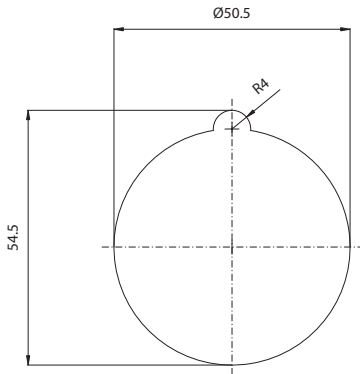
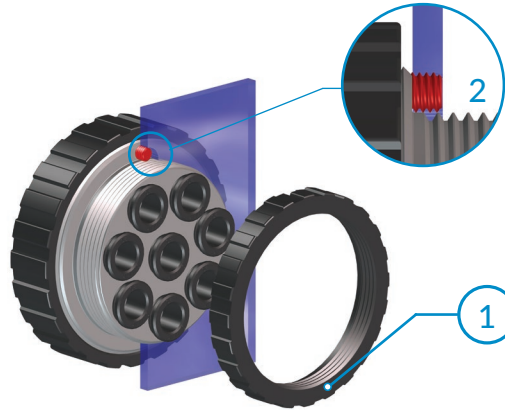

Fig.1
Fig.2
Loosen counter nut (1) from the multiple connector socket; tighten the screw (2) to let it sticks out as much as the wall thickness (Fig.2). Place the socket in the wall hole and allow for the screw to fit into the seat drilled through in the wall (Fig.1). Tighten the counter nut (1) on socket body until bottoms (Fig.3).